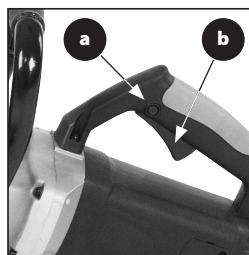

FIG. 5a & 5b
- Push in the safety lock button **(Fig. 5a)** on the side of the handle with your thumb.